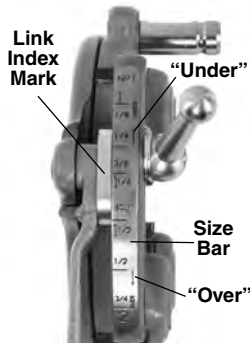

Figure 7 – Adjusting Thread Size
3. Start with link index mark aligned with desired size mark on size bar. On Bolt die heads, set link mark at line in size bar. For bolt threads with Universal die head, set all bolt dies at BOLT line on size bar (*Figure 7*).